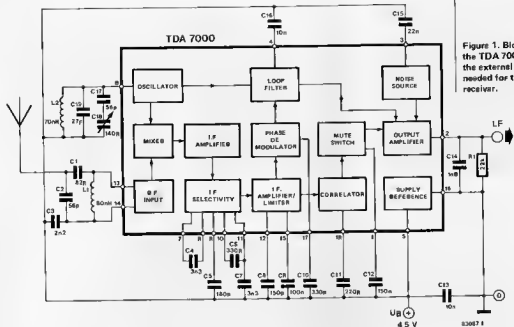
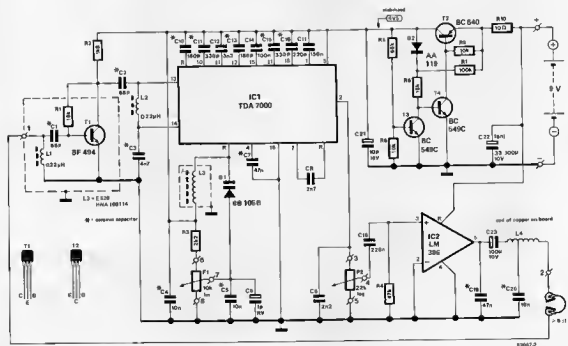
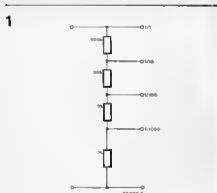

Figure 1. Block diagram of the TDA 7000 including the external components needed for the basic radio receiver.
Figure 2. The circuit diagram of our personal FM receiver. The varicap tuning and the extra HF preamplifier improve the reception substantially.
Figure 1. A standard voltage divider with an input impedance of 1 M $\Omega$ . Unfortunately, the resistors used are difficult to obtain.
Figure 1 shows the block diagram of the IC, complete with the components needed for a bog-standard radio. A very simple affair! We will not go any further into this block diagram at the moment as we will concentrate on how this circuit is expanded into something more interesting.
type of receiver is designed around the TDA 7000, a large part of it will always be the same. Almost everything is included in the IC so there is very little designing to be done with external components, and the receiver design cannot really be changed. The similarities between the design of figure 2 and that in figure 1 are clear enough
but there are also a few differences, principally in the input stage and the oscillator. Also the more advanced design (figure 2) includes power supply stabilization and the LF amplifier mentioned before.
In the construction of measuring equipment, you normally require a number of precision components. Particularly voltage and current dividers need resistors of 1% tolerance. The simple four-way voltage divider shown in figure 1 has a total resistance of 1 M $\Omega$  and requires four resistors: 900 k $\Omega$ , 90 k $\Omega$ , 9 k $\Omega$  and 1 k $\Omega$ . And that's where your troubles are likely to start. If you're not lucky enough to find a complete divider somewhere, forget about buying the individual resistors. It's extremely unlikely that you'll find the above four values in the high-stab range in one shop.
Fortunately, it is possible to make a precision voltage divider with an input impedance of 1 M $\Omega$  from standard value resistors. The solution lies in connecting two high-stab resistors in parallel to obtain the required value as shown in figure 2. If a shop stocks high-stab resistors, it's pretty certain that it has standard values of 1 M $\Omega$ , 100 k $\Omega$ , and so on. And that's what the divider of figure 2 depends on! The resulting resistances are 909.09 k $\Omega$ , 90.909 k $\Omega$ , 9.09 k $\Omega$ , and 1.01 k $\Omega$ . The deviation from the ideally required divide factors is smaller than 0.01% so that in practice the variations are entirely dependent upon the tolerances of the resistors used.
In parallel connections as used in figure 2, not all resistors need be 1% types. Because each combination consists of two resistors of which one has ten times the value of the other, the larger one has a much smaller effect on the result than the smaller one. As a consequence, the tolerance of the larger resistor is of much less importance than that of the smaller one. Even if 5% types are used for the larger resistors in the parallel branches, the overall stability will be sufficient. The same is true of R7 because this is pretty small compared with R8.
As an example of the above: if R2 deviates exactly 5% from its nominal value, the variation of the resultant value of R1/R2 is only 0.4%. You might say that the tolerance of the larger resistor improves roughly by a factor equal to the ratio of the two resistors. Parallel connections have a further advantage: statistically there is only a very small probability that two resistors in a parallel branch both deviate in the same direction. In other words: there is a good chance that the network of figure 2 is more precise than the one constructed from 1% resistors as shown in figure 1.
Figure 2. This voltage divider uses standard value resistors. Its input impedance is slightly higher than 1 M $\Omega$ , but this will not matter in most applications. The divide ratios, however, are accurate.
All in all, the above gives enough reasons to use parallel-connected resistors. Figure 3 gives an alternative which uses fewer resistors. However, its theoretical stability is rather worse than that of figure 2: 0.01% instead of 0.001%.
The transmitter and receiver contained in the alarm extension are shown in block form in figure 1. The signal detected by the transmitter is amplified, rectified, passed through a high-pass filter, and then used to switch an astable multivibrator (AMV). This stage generates a 22 Hz square-wave signal which is used to phase-modulate a second AMV. This astable operates at 178 kHz. The output of the modulator is taken via a limiter to a low-pass filter which removes the last traces of any spurious frequencies, so that a 'clean' signal is fed to the mains via a suitable transformer.
*The transmitter (see figure 2)*
The input signal is taken from a telephone adapter coil or simple microphone. A coil does not pick up ambient noise and will therefore give better results. The amplifier, rectifier, and high-pass filter mentioned are shown at the top left-hand of figure 2. They are followed by comparator
Figure 1. The block diagram contains no surprises: The transmitter (1a) comprises a bell amplifier, a rectifier, a comparator, f.m. modulator, and limiter. The receiver (1b) is even simpler, comprising a limiter, f.m. discriminator, and tone decoder.